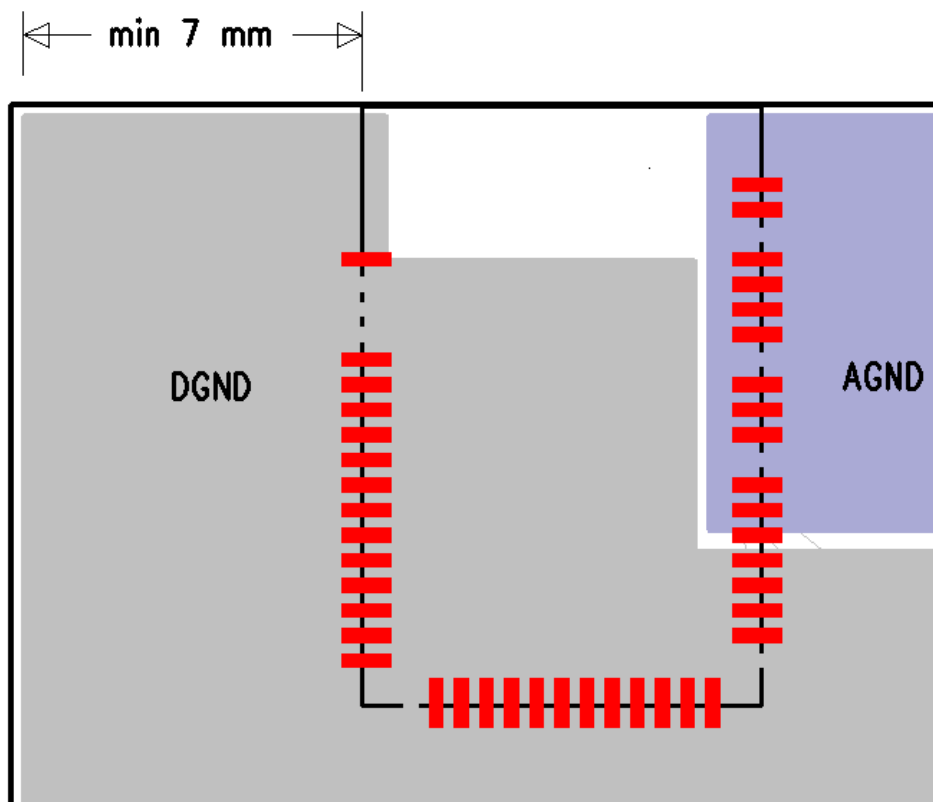

Figure 38: Recommended layout for the ground planes around the module.
The version of the stack firmware shown in figure 38 requires no host processor (but can use a host processor for debugging etc.). All software layers, including application software, run on the internal RISC processor in a protected user software execution environment known as a Virtual Machine (VM).